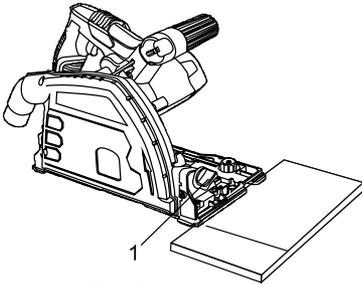
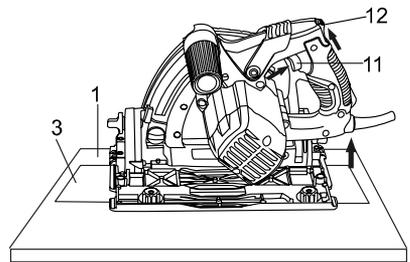

Fig. 6
Fig. 7
2. Set the saw on the workpiece (1) so the base plate is flat on the workpiece (Fig. 6).
3. Align the saw blade with the cutting line (3).
4. Press the plunge release (12) and switch trigger (11) to start the saw and slowly lower the blade onto the workpiece to allow the blade to cut into the workpiece (Fig. 7). Allow the blade to cut through the wood.
Alter the depth of the cut by loosening the Depth Locking Knob (15), (Fig.8). The Base Plate (8) is now free to adjust to the required depth when the Plunge Release (12) is pressed. (Fig.7)